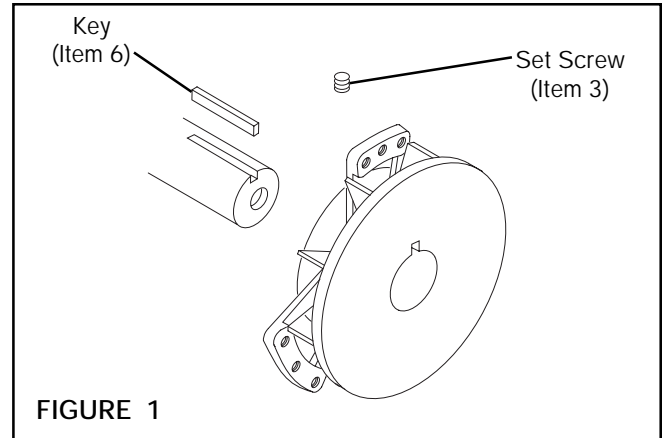

FIGURE 1
1. Insert the Nexen supplied Key (Item 6) into the machine shaft (See Figure 1).
2. Slide the TCB-7 onto the machine shaft (See Figure 1).
3. Tighten Set Screws (Item 3) to 7 Ft. Lbs. [9.5 N•m] torque (See Figure 1).